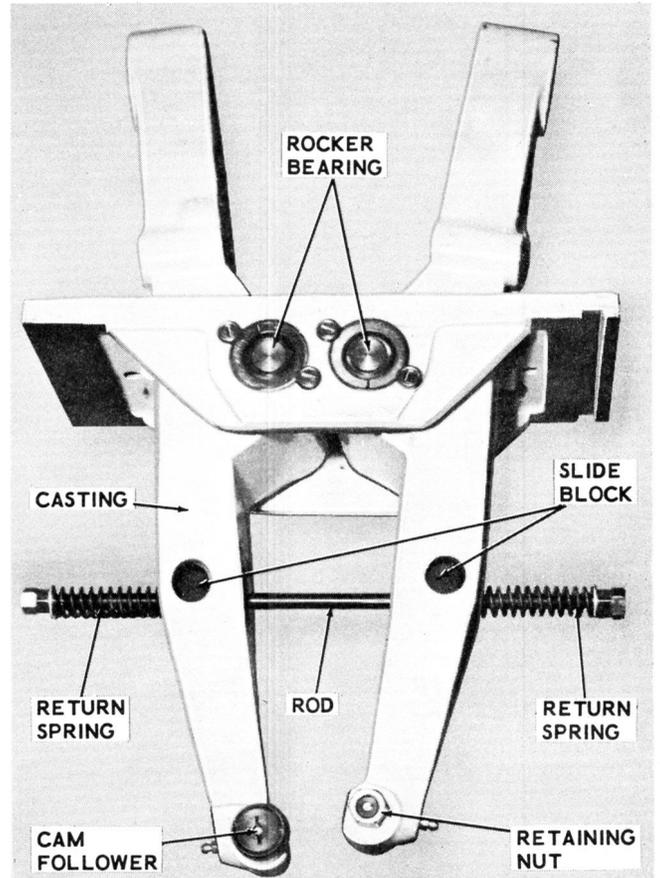

Figure 6-5. Side Seal Rocker Assembly
a. Replacing Cam Followers. Replace a worn cam follower (Figure 6-5) by placing a screwdriver in slot of follower and removing retaining nut from shaft of follower. Pull cam follower from casting. Install a new cam follower by reversing this procedure.
b. Replacing Springs and Slide Blocks. Check return springs, slide blocks, and rod (Figure 6-5) for wear. Replace worn components as follows:
(1) Remove stop nut and flat washer from each end of threaded rod.
(2) Remove each return spring. Pull threaded rod from slide blocks and remove slide blocks from casting.
(3) Examine all parts for wear and replace any badly worn parts.
(4) Install each slide block in the casting and insert threaded rod through the blocks. Oil slide blocks and rod.
(5) Install each return spring and secure with one flat washer and stop nut on each end of threaded rod. Apply oil to each return spring.
c. Replacing Rocker Bearings. Remove two screws and washers (Figure 6-5) retaining each ball bearing in the base plate. Loosen one setscrew in shaft hub of each casting. Tap end of shaft to remove bearings.